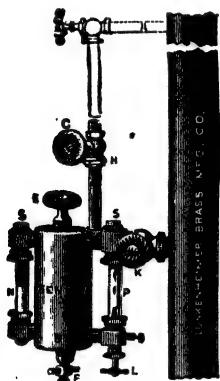

Fig. 23. DROP LUBRICATOR.
**NOTE.—Description of Fig. 23.**